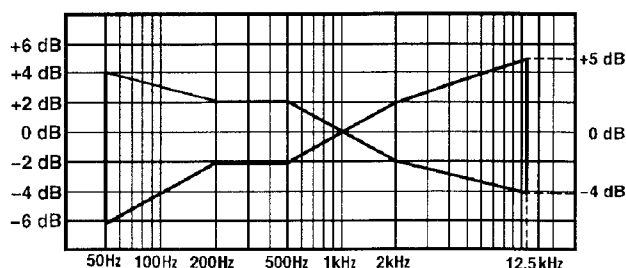

Fig. 12
5. Repeat steps 2 to 4 for each tape and confirm that the output for each is within the range of the overall frequency response shown in Fig. 12.